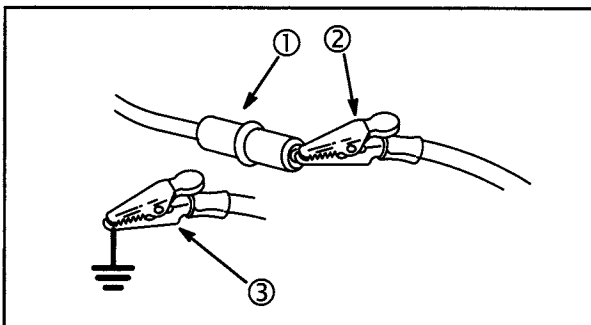

**Fig. 53**
2. Manually move throttle link to wide open throttle (WOT), **Fig. 53**. Engine should not exceed 4000 RPM (approximately).